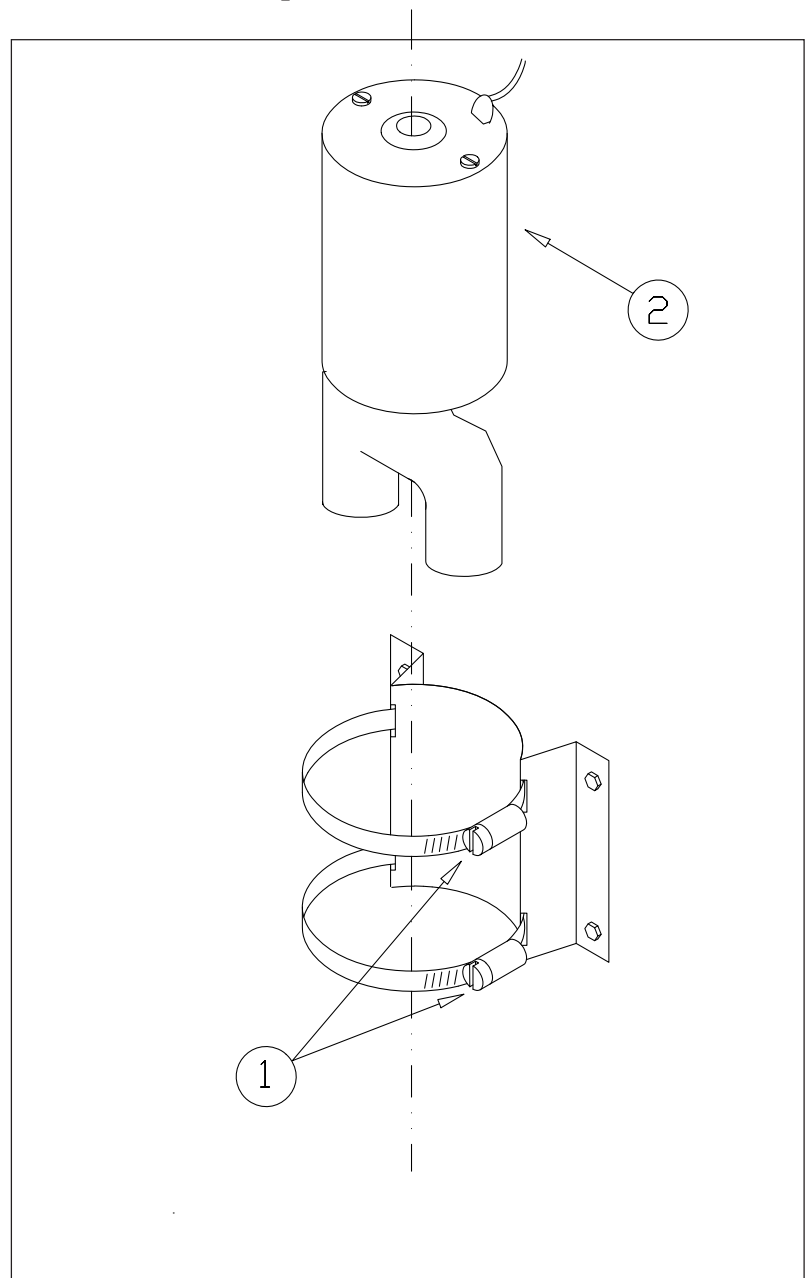

Figure 13
- 4 Loosen the clamping device screws (1, Figure 13).
- 5 Remove the boost pump (2).